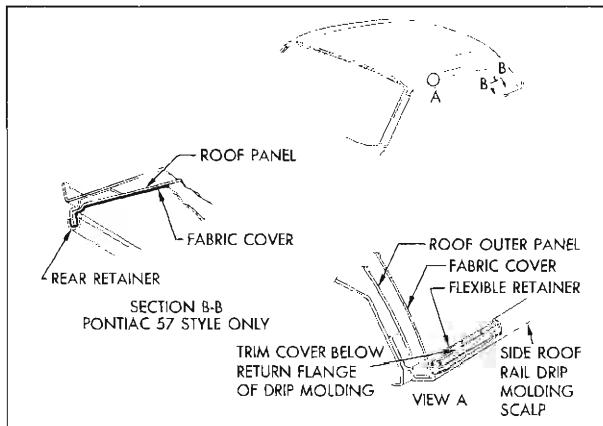
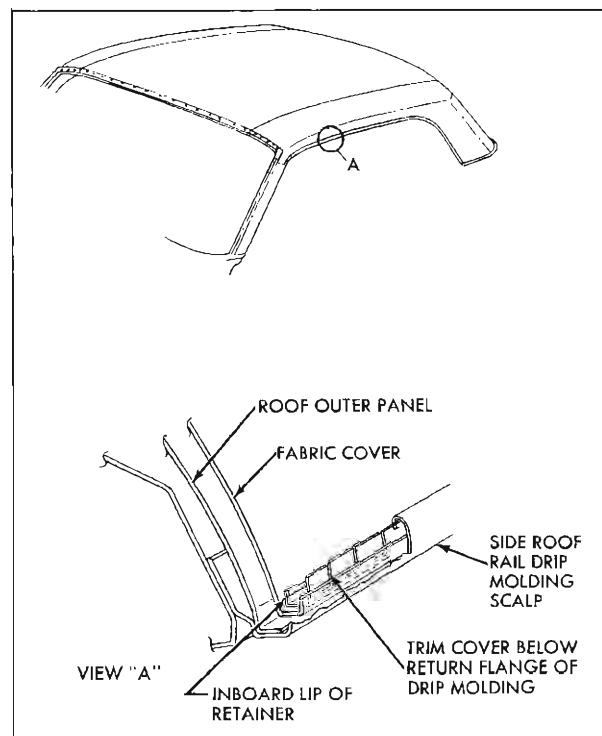
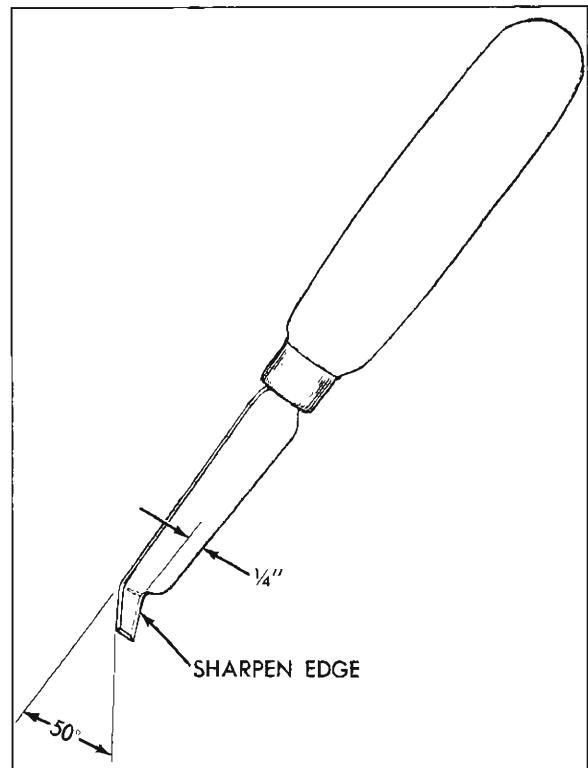

Fig. 21-73 Pontiac Fabric Roof Cover
Fig. 21-74 Tempest Fabric Roof Cover at Side Rail
Fig. 21-78 Fabric Cover Trimming Knife
cover inside right and left drip moldings can best be completed by inserting tip of screwdriver or similar tool under forward end of retainers. (See View "A" in Fig. 21-73 for Pontiac. See View "A" in Fig 21-74 for Tempest). Working from front to rear of body, disengage fingers of retainers from side roof rail drip molding flanges. Continue above operation until retainers can be removed from body. On Pontiac "57" style, remove fabric cover rear retainer at rear quarter window area. (See Section "B-B", Fig 21-73).
19. Using fabric cover trimming tool (J-21092), or suitable small knife, trim fabric cover just under lip of roof drip molding. (View "A", Fig. 21-73). A tool may be fabricated to trim material along side roof rail molding as illustrated in Fig. 21-78.
21. Install flexible retainer starting at radius area above rear quarter window. Working toward rear of body, if necessary, carefully drive retainer downward with a blunt-edged tool. Working toward front of body, install remaining portion of retainer. Retainer fingers should be seated in flange of drip molding. (View "A", Fig. 21-73). On Pontiac "57" style, compress retainer to insure a tight fit and install on rear drip molding (Section "B-B", Fig. 21-73).